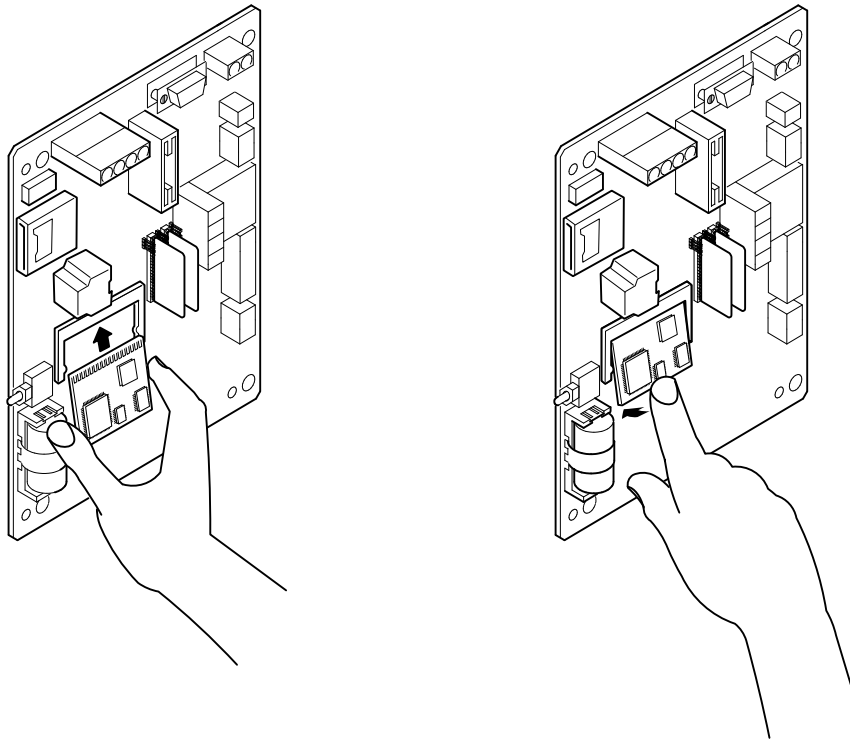

Figure 91: CPU Engine Card Replacement
12. Insert the new engine card at a 30 degree angle (Figure 91).